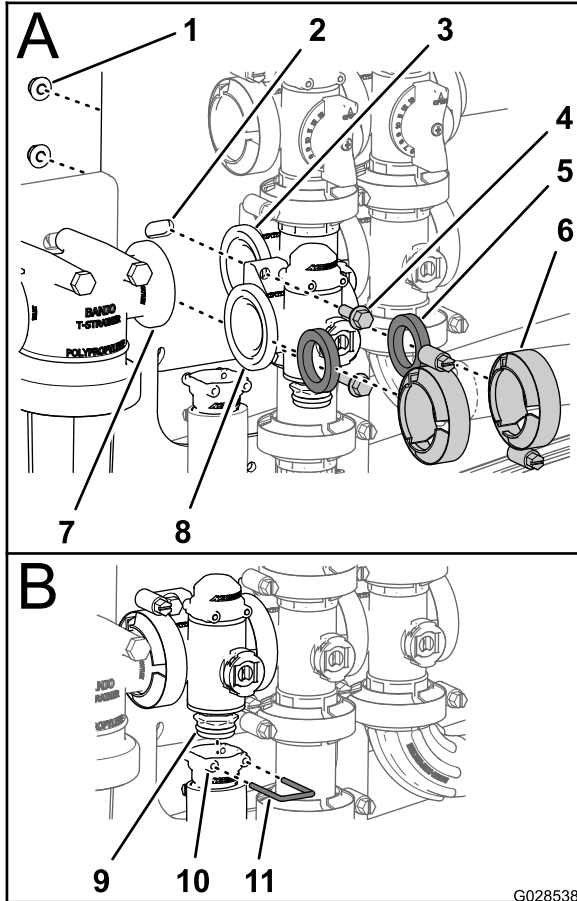

Figure 101
1. Align a gasket between the flanges of the rate control valve manifold and the pressure filter head (A of Figure 101).
4. Assemble the rate control valve manifold, gasket, and agitation valve manifold with a clamp and tighten by hand (A of Figure 101).
5. Assemble the rate control valve to the valve mount with the 2 flanged-head bolts and 2 flanged locknuts (A of Figure 101) that you removed in step 3 of Removing the Rate Control Manifold Valve (page 67) and torque the nut and bolt to 1017 to 1243 N-cm (90 to 110 in-lb).
6. Assemble the outlet fitting onto the lower endcap fitting of the manifold valve (B of Figure 101).
7. Secure the endcap fitting to the outlet fitting by inserting a retainer into the socket of the outlet fitting (B of Figure 101).
2. Assemble the rate control valve manifold, gasket, and pressure filter head with a clamp and tighten by hand (A of Figure 101).
3. Align a gasket between the flanges of the rate control valve and the agitation valve manifold (A of Figure 101).